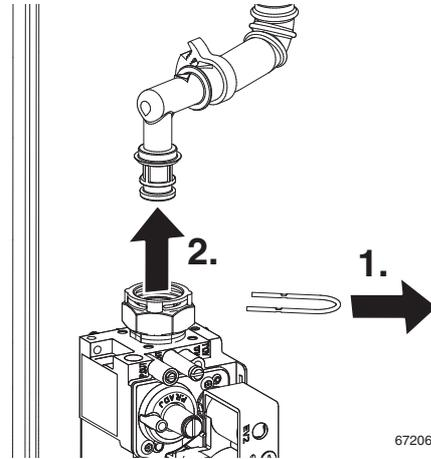

Fig. 98 Gas valve upper connection
Refer to figure 98
- ▶ Remove wire clip from gas valve outlet then pull the gas pipe free from gas valve (see figure 98).